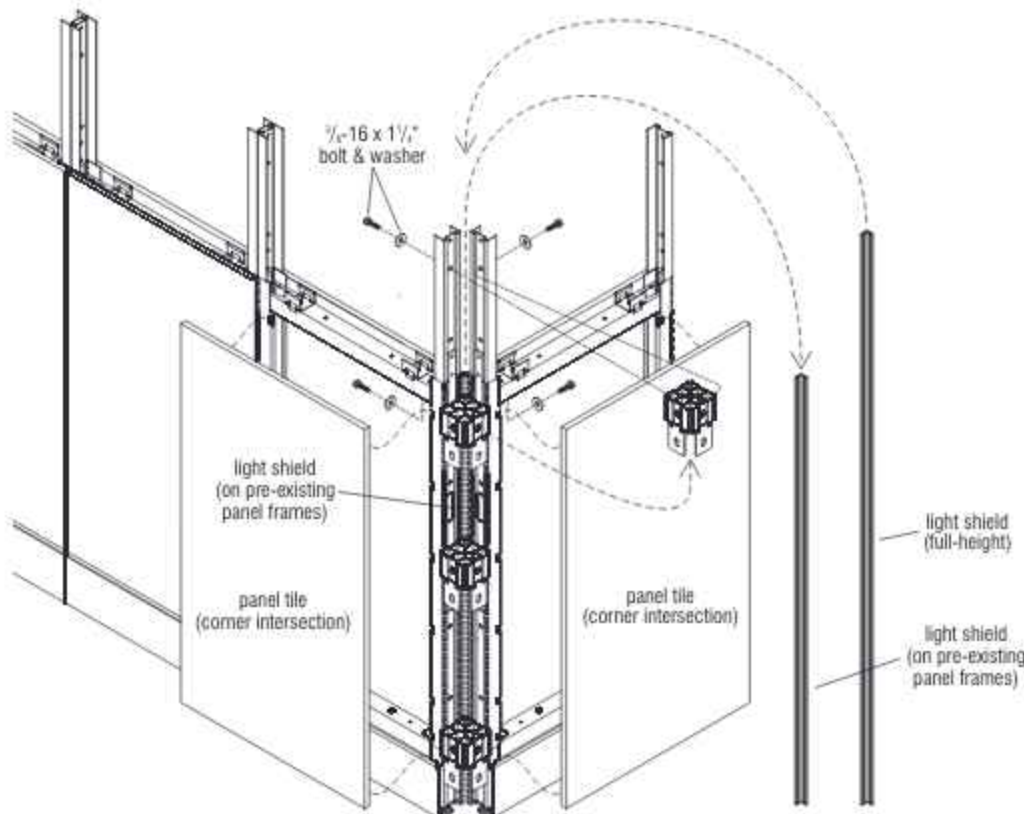

Figure 5 - Stacking Sections (aluminum frame) - Full-Height Intersection
**Important:** When stacking sections are ordered after original space planning/installation to be installed to existing panel frame intersections, the light shield and vertical intersection trim will ship in two pieces to install in two pieces (Figure 5).
1. To gain access inside both intersection panel frames, lift the intersection panel tiles up to disengage them from the P-slots in the vertical posts. Set panel tile aside until instructed to assemble back onto the panel frame (Figure 5).
2. Remove the connector block located at the top of the panel frame intersection by removing the  $\frac{3}{8}$ -16 x  $1\frac{1}{4}$ " bolts and washers inside the vertical posts of the panel frames (Figure 5).
3. Loosely attach the previously removed connector block to the highest mounting location on one of the vertical stacking posts at the intersection using the previously removed  $\frac{3}{8}$ -16 x  $1\frac{1}{4}$ " bolt and flat washer (Figure 5).
4. Loosely attach the second vertical stacking post to the connector block on the first stacking post using a  $\frac{3}{8}$ -16 x  $1\frac{1}{4}$ " hex head bolt and flat washer (Figure 5).
5. Tighten all  $\frac{3}{8}$ -16 x  $1\frac{1}{4}$ " hex bolts securing vertical stacking posts to connector block at the intersection (Figure 5).
6. Remove the light shield located at the intersection of the pre-existing panel frame installation. Position the new full-height light shield into the corner where the previous shield was located. Snap the full-height light shield into the corner of each connector block such that you hear a "click", ensuring that the light shield is snug at each connector block (Figure 5).